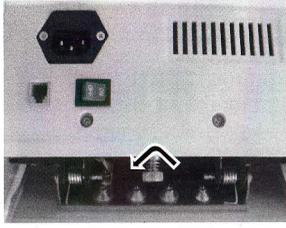

Figure 4
- Turn it right to decrease the thickness (see figure4)